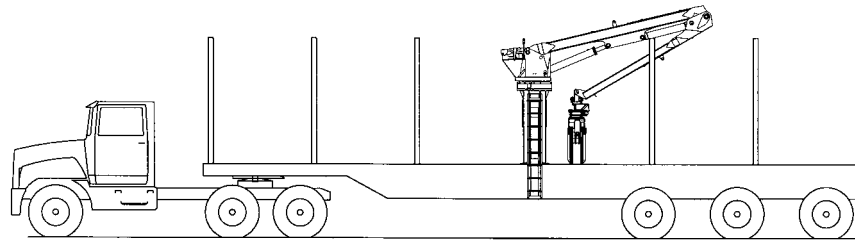

Figure 12
7. Store the loader in the position shown in *Figure 12*, below, if possible. It prevents rusting of the cylinder rods.